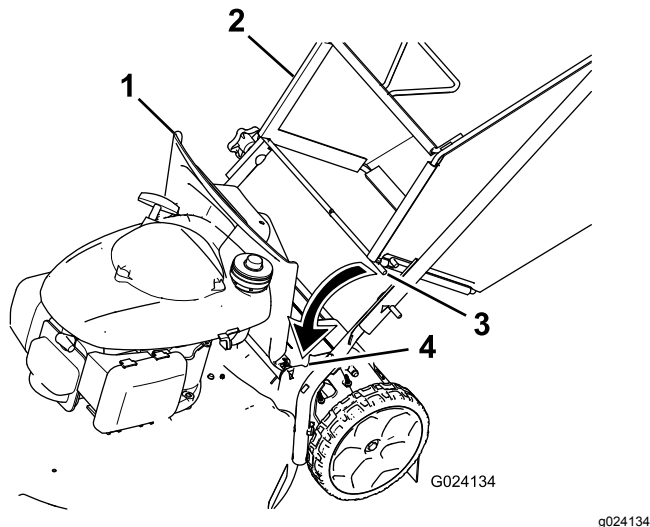

Figure 13
1. Lift up the rear deflector (Figure 13).
2. Insert the rod ends of the grass bag into the notches in the handle brackets (Figure 13).